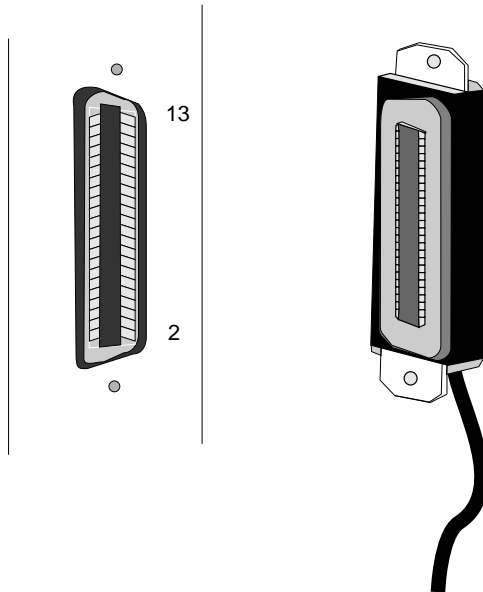

Figure 3-9. 50-Pin Champ Connector
1. Connect a 50-pin feeder cable to the Champ connector on the TPRMIM. See Figure 3-9.